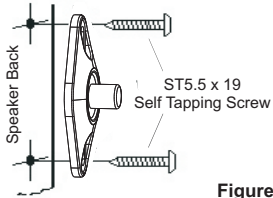

Figure 6
16. Drill the pilot hole(s) using a 1/8" drill bit. This hole(s) should not be drilled more than 1/2" depth (Figure 6).